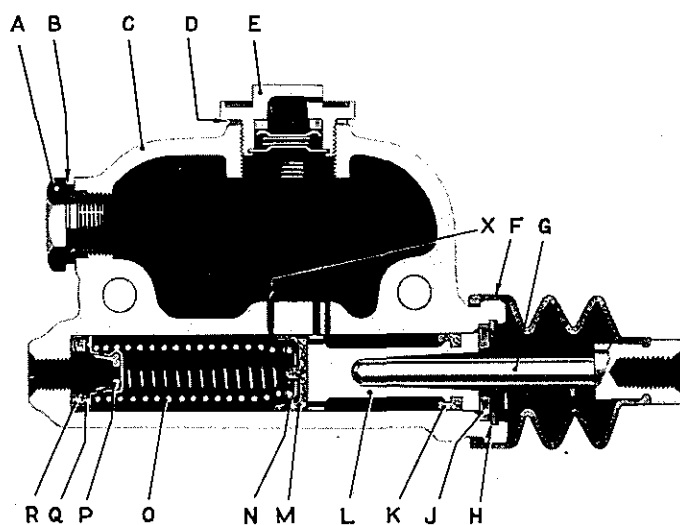

Fig. 1.
The correct amount of free play between the push rod (G) and the piston (L), Fig. 1, is set when the vehicle is assembled and should not be altered. If the adjustment has been disturbed, reset the length of the rod connecting the push rod to the pedal so that the pedal can be depressed approximately  $\frac{1}{2}$ " before the piston (L) commences to move; this free play can readily be determined if the pedal pad is depressed by hand.
(See Fig. 1)